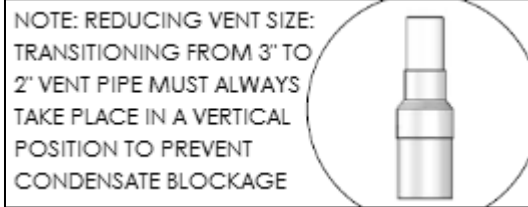

Figure 8 – Transitioning from 3" to 2" Vent Pipe
- For 2" diameter installations, install a reducing coupling in a vertical section of pipe ABOVE the pipe clamp installed on the water heater. See Figure 8.
5. For 2" installations, install a reducing coupling in a vertical section of pipe. See Figure 8.